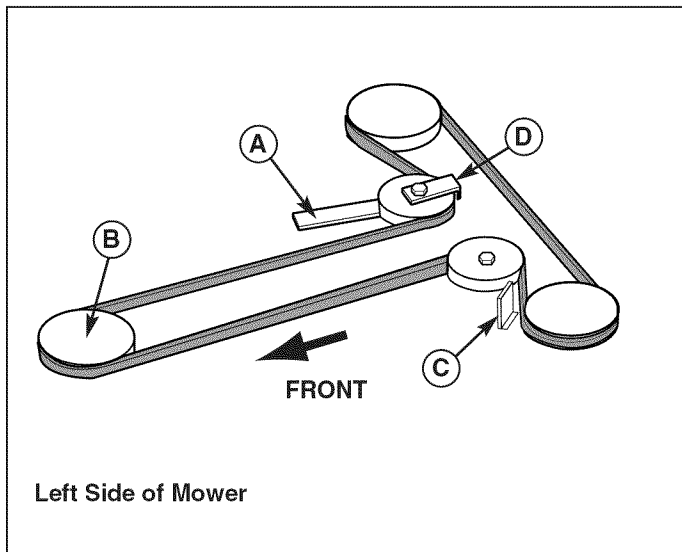

Figure 28. Typical Mower Belt Routing - Two Blade Decks
3. Push the idler pulley arm (A, Figure 28) to relieve belt tension. Drop the belt from the PTO (electric clutch) pulley (B).